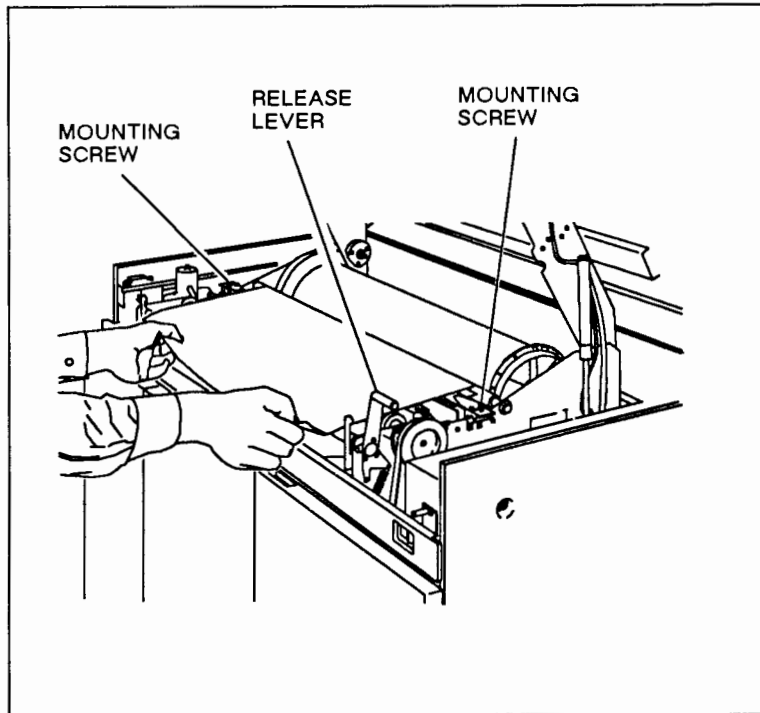

Figure 6-2. Writing Head Adjustment
- d. Turn the plotter line switch to OFF (O) and disconnect the ac power cord.
- f. Raise the upper frame by pulling the release lever, located in the near right corner of the upper frame, towards you. See Figure 6-2.